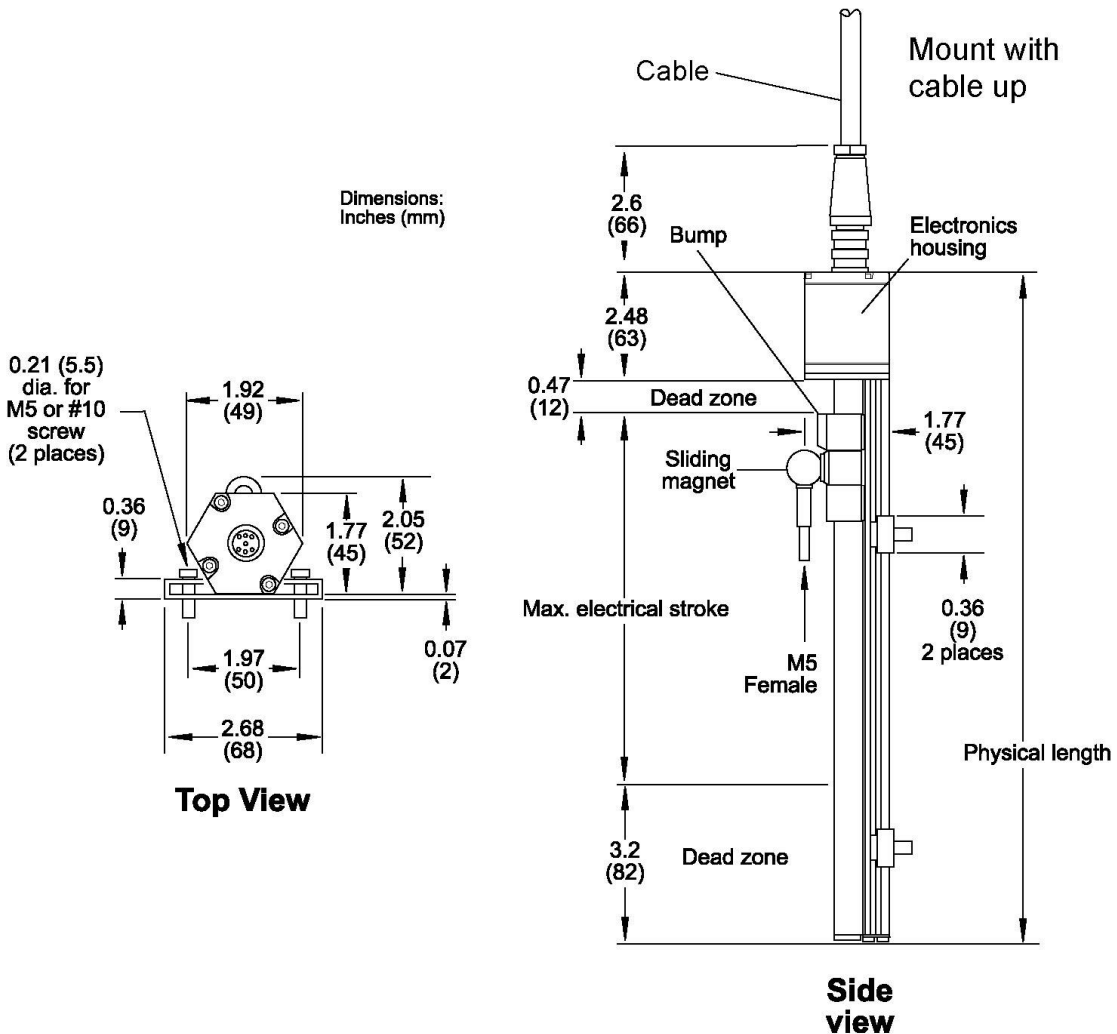

Figure 2-6. MTS Linear Transducer Dimensions
It is important to mount the transducer with the cable up, as shown in Figure 2-6. If the cable is facing down, the transducer will not work properly.
2. Using a marking pen, mark the upper and lower limits of the area identified as the sensor's "Max. electrical stroke" in Figure 2-6.
8. Connect the magnet to the transducer by sliding it into the mating grooves from the bottom of the unit. Make sure the magnet is positioned within the transducer's electrical range (i.e., within the marks you made in step 2) and that the bump on the magnet is facing the sensor's electronics housing when the press moves up and down (see Figure 2-6). If the magnet is not positioned within the transducer's electrical range, it will not work properly.